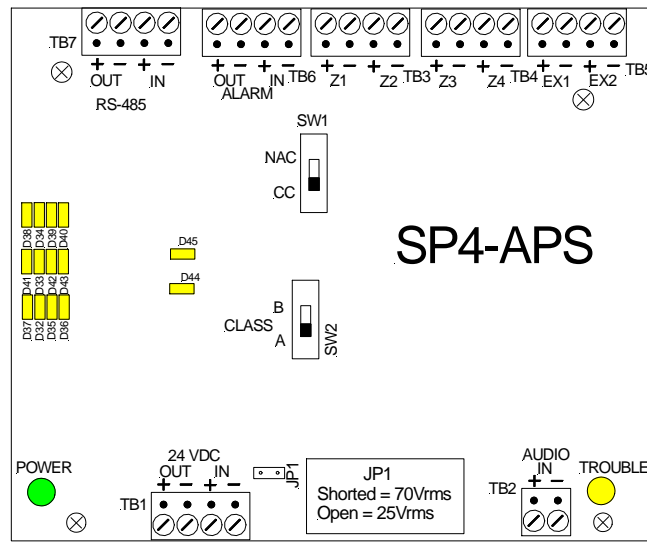

Figure 14:
Figure 14 shows the SP4-APS PC board layout.
Alarm Mode occurs when an alarm signal initiates the SP40S into an alarm condition, or when the SP4-APS ALARM input or output wiring is in trouble. When the SP4-APS module is in ALARM, it turns on all audio output zones and ignores any SP4-TZC paging and/or BGM commands. When the SP4-APS is installed with an SP-40/2 it must be set for "CC MODE" (Contact Closure). When the SP4-APS is installed with an Audio Booster product it must be set for "NAC MODE." The SP4-APS uses 3.0mA at 24VDC in the NAC mode. See Figure 14 for the location of the ALARM terminals.
5. If the yellow TROUBLE LED is “ON” an output circuit supervision trouble or module trouble is indicated. Remove the SP4-APS cover and observe the 12 yellow AUDIO TROUBLE LED’s as shown in Figure 14 to determine the reason for the trouble using Table 3. (NETWORK TROUBLE LED’S are used when the SP4-APS is used with the Telephone Zone Controller (SP4-TZC)).